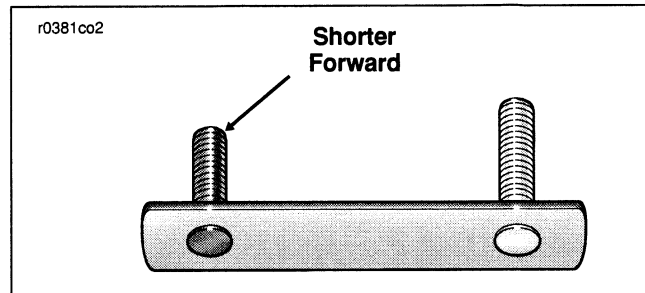

Figure 60. Stud plate
8. See Figure 60. Turning handlebar to access stud plate, push on ends of studs to release stud plate from inboard side of left fairing support. Repeat step to remove stud plate from right fairing support.
6. See Figure 60. Standing on the left side of the vehicle, turn handlebar to access inboard side of left fairing support. With shorter stud in the forward position, slide studs on stud plate through holes in fairing support and then through holes in both inner and outer fairing.